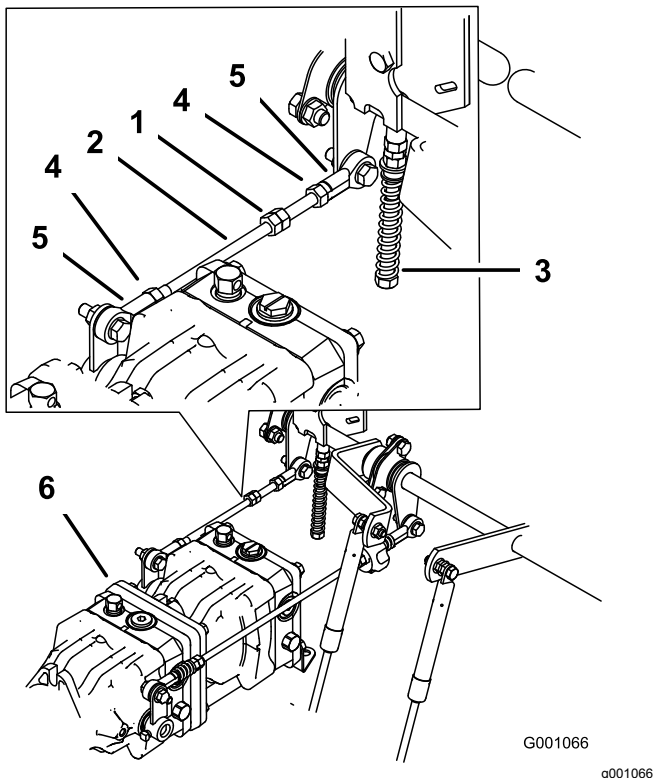

Figure 88
1. Loosen the locknuts at the ball joints on the pump control rod (Figure 88).
3. Adjust the pump rod length by rotating double nuts on rod, in the appropriate direction, until wheel is still or slightly creeps in reverse (Figure 88).
6. Tighten the locknuts at the ball joints (Figure 88).